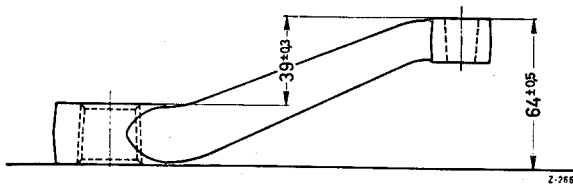

Fig. 46—12/1
3. Check the steering gear arm for distortion (Fig. 46—12/1).